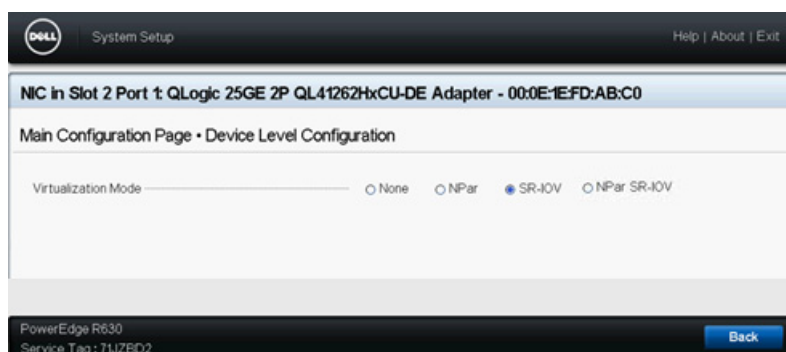

Figure 11-2. System Setup for SR-IOV: Device Level Configuration
5. On the Main Configuration Page - Device Level Configuration (Figure 11-2):